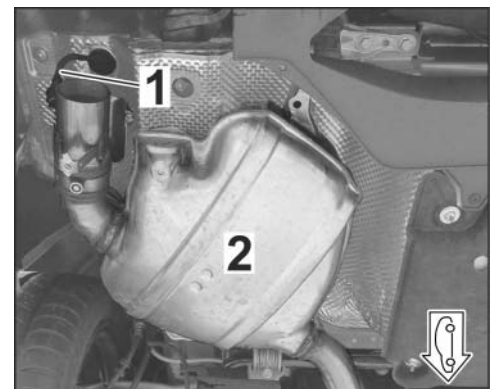

Figure 6
1.3.2 Unlock and disconnect the electrical plug connection for the exhaust flap actuator on the left-hand rear silencer (⇒ Figure 6). ⇒ *Workshop Manual '265119 Removing and installing exhaust flap actuator'*